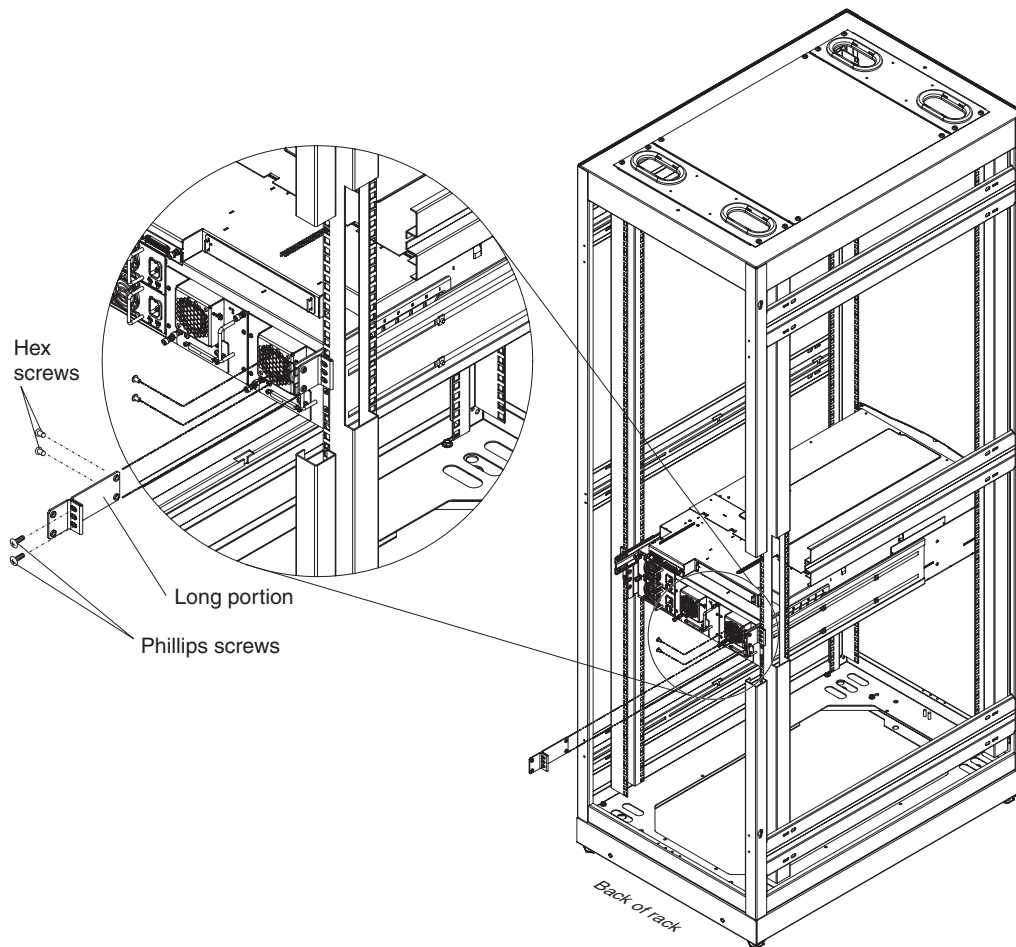

Figure 10. Attaching the mounting clamps
11. Place the library in the rack and attach the two mounting clamps (see Figure 10 on page 12):